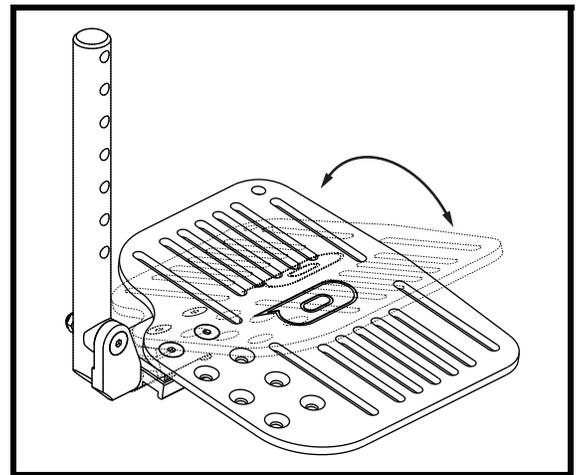

Figure 29. Foot Plate Angle Adjustment
2. Tilt the foot plate forward or back to the desired angle. See **figure 29**.